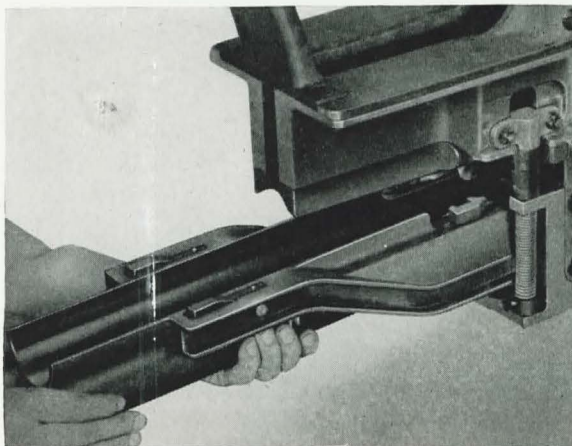

Figure 56
- (1) Pull the tray forward out of the loader assembly, **Figure 56**.
- (2) Remove the loose rollers from the lower ends of the feed rods.